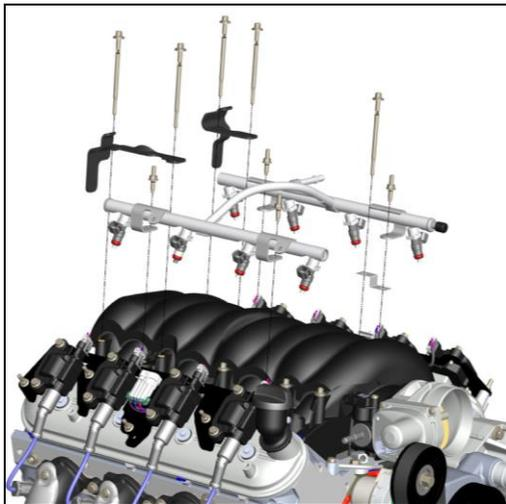

Figure 1
7. Remove the fuel rail mounting and related hardware (**Figure 1**).